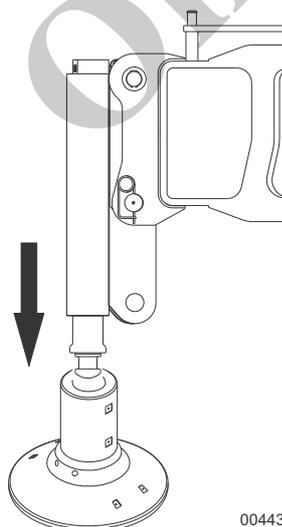

Fig. 138 Lowering the outrigger cylinder
- 7 Lower the outrigger cylinder into the adapter using the remote radio control in Fig. 138.